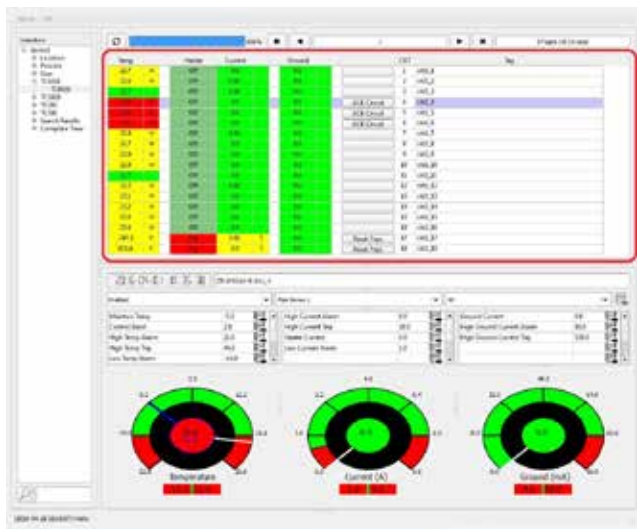

Figure 12: Circuit Viewer: Annunciator Pane
2. On the right side of the window, the circuit annunciator panel will show the various circuits associated with the items selected from the tree view (Figure 12).
3. Select the start and end time from the time-date selection and click the "Select" button (Figure 12). As explained in Alarm List, the loading process can be cancelled by clicking the "Cancel" button (Figure 12). The plot will be shown when the loading is complete.